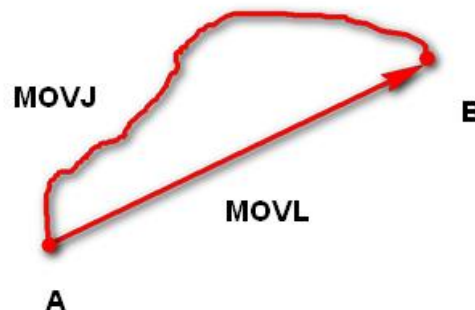

Figure 2.1 MOVJ/MOVL mode
- MOVJ: Joint movement. From point A to point B, each joint will run from initial angle to its target angle, regardless of the trajectory, as shown in Figure 2.1.
- MOVL: Rectilinear movement. The joints will perform a straight line trajectory from point A to point B, as shown in Figure 2.1.